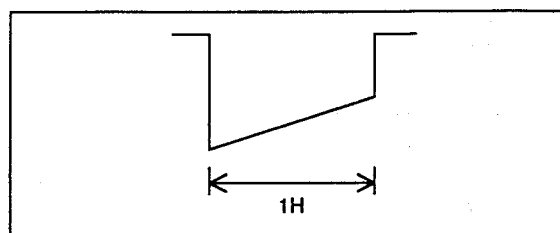

Fig. 46
7. Adjust R3518 (C.B.H. saw) to achieve waveform as shown in Fig. 46.